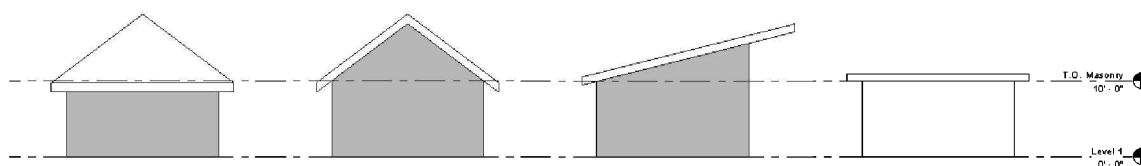

FIGURE 6-3.13 South elevation – flat roof
54. Switch to the South elevation view (Figure 6-3.13).